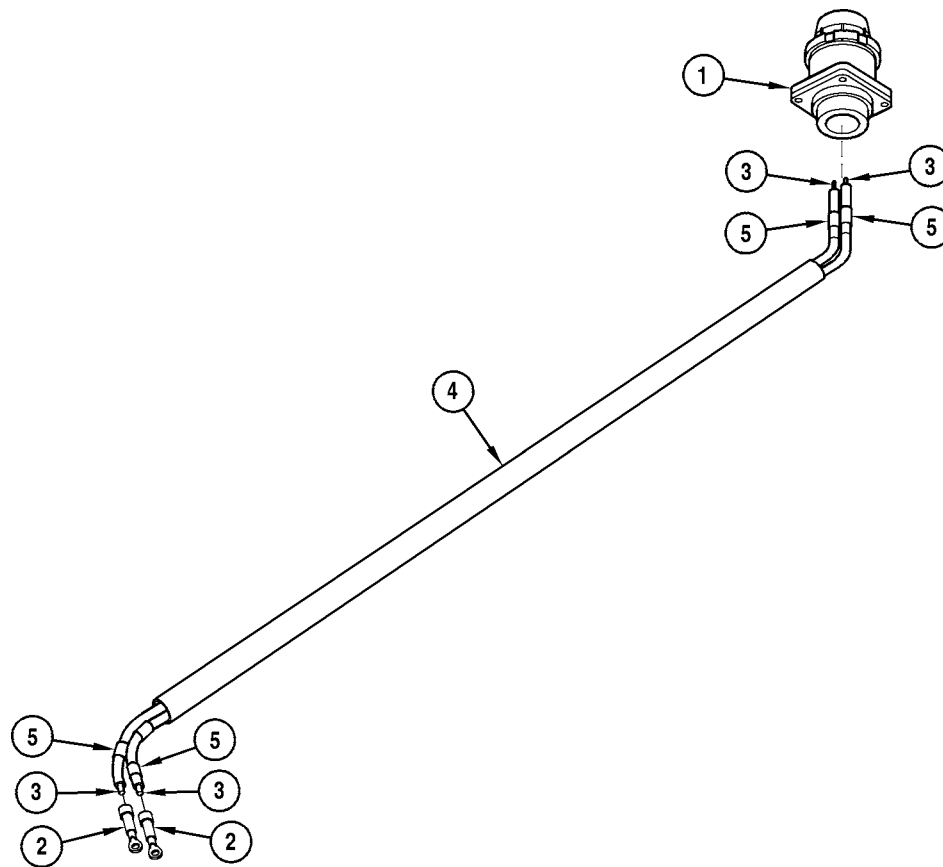

Figure 2-24. Starter Cable (M113A3/M548A3)
2. Connect two AWG 1/0 electrical leads (3) measured in step 1, to electrical plug connector (1).
3. Label leads (3), using band markers (5), from pin E, 6; and pin B, 6A.
4. Install lug terminal (2) on each lead (3).
5. Install electrical insulation tape/sleeving (4) on both leads (3). See Figure 2-24.